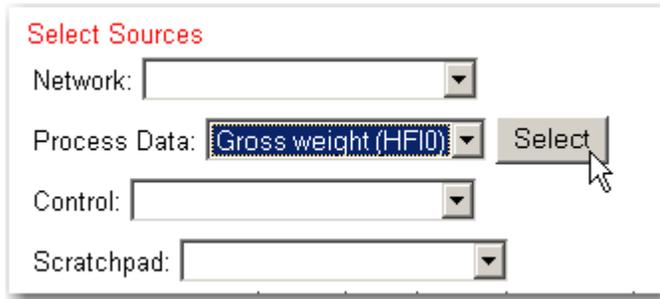

FIG. 334 SELECTING SOURCE
- Step 9. Click on “Gross Weight”. A Select button appears to the right of the Process Data pull down menu. (See Fig. 334)